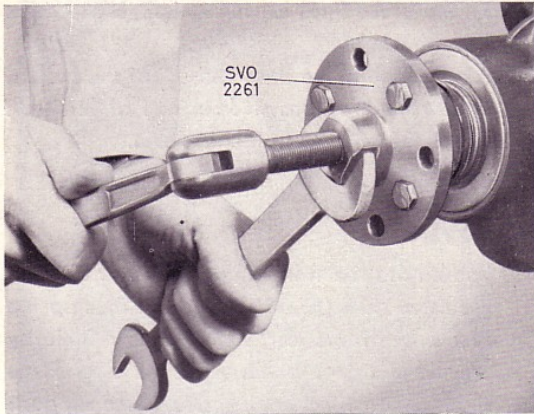
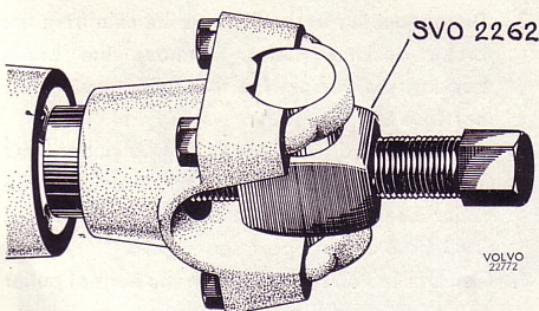
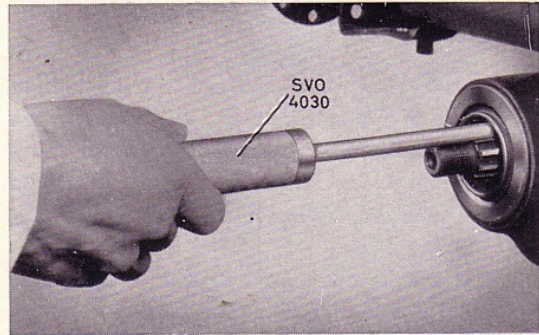

Fig. 5. Removing the flange, PV 544 and late production P 120, P 1800.
Fig. 6. Removing yoke, early production P 120, P 1800.
Fig. 7. Removing the oil seal.
2. Remove the flange nut by using lever SVO 2409 as counterhold. Pull off the flange for PV 544 and late production P 120 and P 1800 with tool SVO 2261, see Fig. 5. The yoke for early production P 120 and P 1800 is pulled off with tool SVO 2262, see Fig. 6. Remove the old oil seal by using tool SVO 4030, as shown in Fig. 7.
8. Remove the nut for the flange (yoke) (22). Use lever SVO 2409 as counterhold. Pull off the flange for PV 544 and late production P 120 and P 1800 with puller SVO 2261, see Fig. 5. The
yoke for early production P 120 and P 1800 is pulled off with puller SVO 2262, see Fig. 6. Press off the pinion (28).
9. Remove the oil seal (25) by using tool SVO 4030, see Fig. 7. Then remove the oil slinger (24) and the front pinion bearing (27).